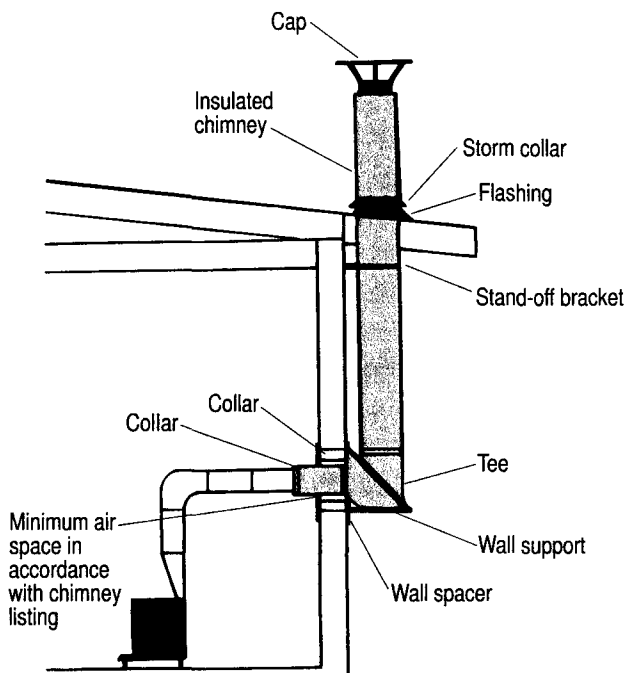

Figure 6-1. Factory-built chimneys
Factory-built chimneys are easier to erect than masonry ones (figure 6-1, page 34). Tests at the National Bureau of Standards have shown that metal and masonry chimneys differ little with respect to draft when used under similar conditions. Factory-built chimneys used with solid-fuel-burning appliances must be UL listed as HIGH TEMPERATURE (HT) chimneys. An exception to this is for some factory-built fireplaces and fireplace stoves. Follow the manufacturer's requirements for these. Do not use the UL-listed "vent" chimney, as it is not insulated or ventilated enough for wood or coal burning. A vent for a pellet-burning stove should be listed and labeled for such use.